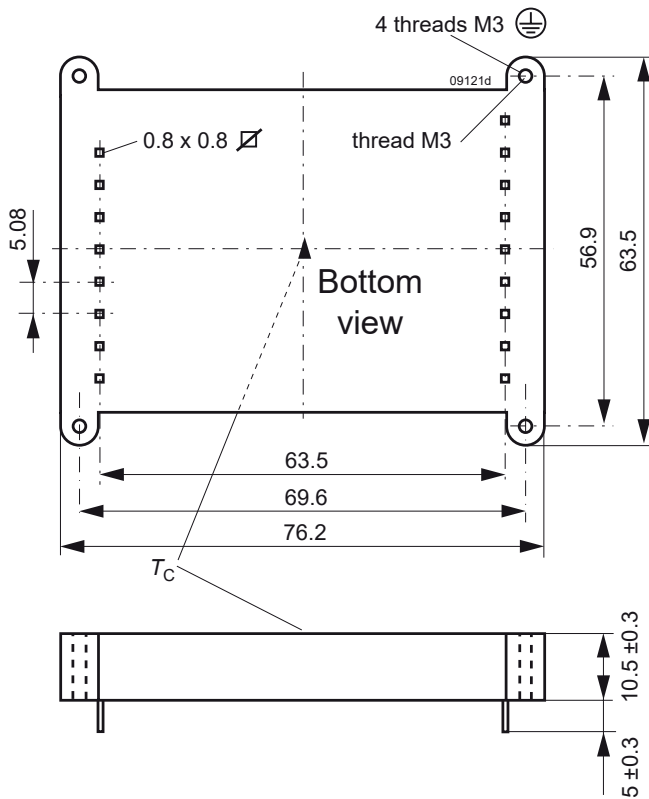

Fig. 15
- ⁷ Corresponds to EN 50121-3-2:2016 table 3.3, external components required; see fig. 15